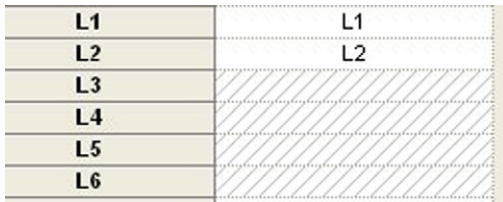
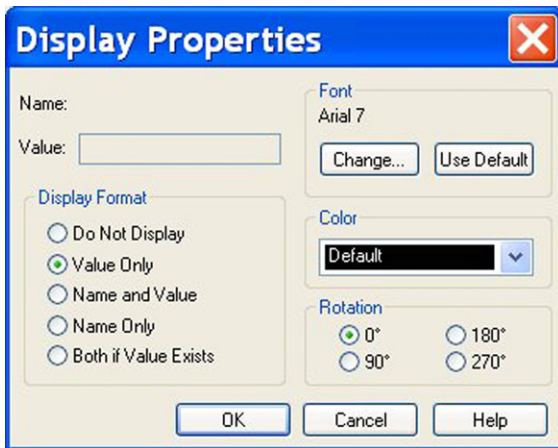

FIGURE 9.7
FIGURE 9.8
3. Double click on the K_Linear device to open the Property Editor and add the inductor reference designators as shown in Figure 9.7. Highlight L1 and L2, then **rmb** >**Display** and select **Value Only** (Figure 9.8).